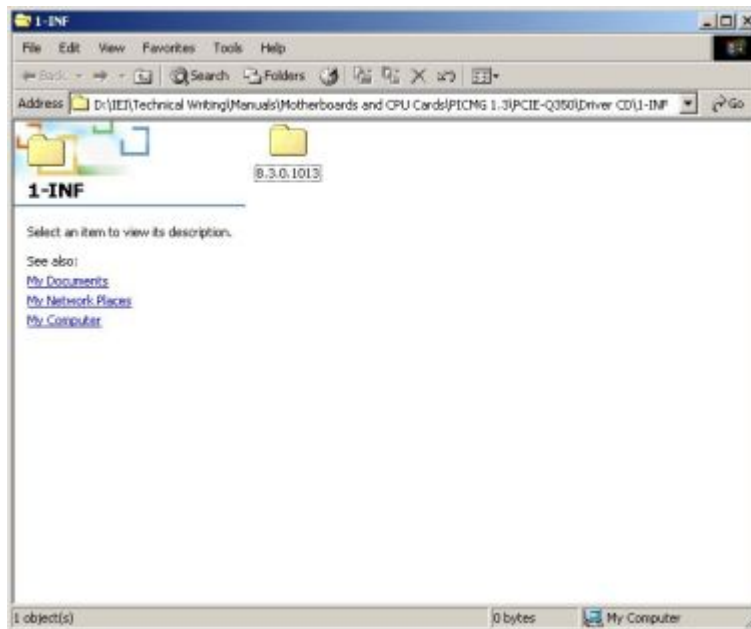

Figure 7-3: Intel® Chipset Driver Directory
Step 3: The window shown in **Figure 7-3** appears.
Step 4: Click on the directory icon in **Figure 7-3**.